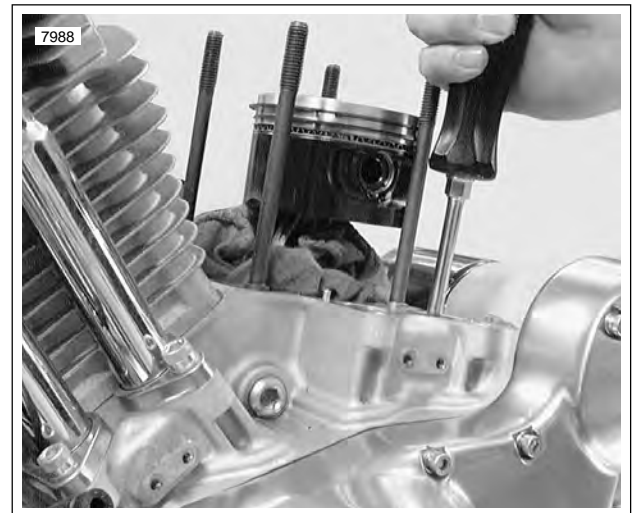

Figure 3-71. Checking Cam Gear End Play
6. See Figure 3-71. Check cam gear end play for each cam gear as follows: